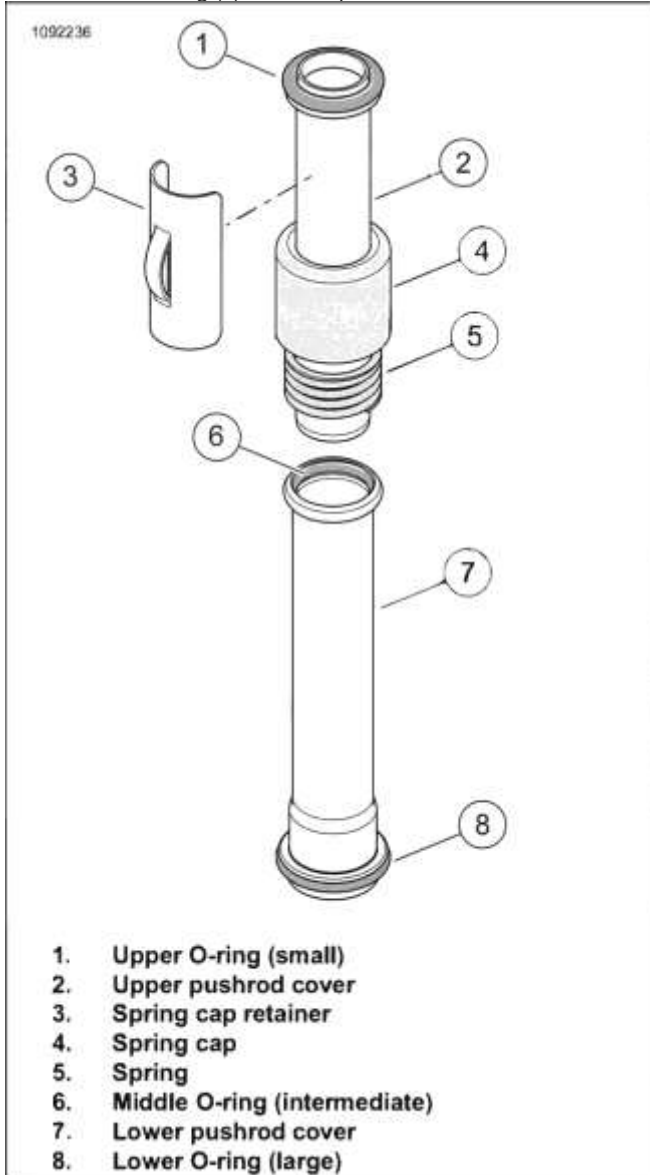

Figure 4-27. Assembled Pushrod Cover
1. See Figure 4-27. Apply clean engine oil to **new** O-rings (1,6 and 8).
2. Install upper O-ring (1) on upper pushrod cover (2).
3. Slide spring cap (4) and spring (5) onto body of upper pushrod cover. Move parts up until spring cap contacts upper O-ring seat.
4. Install middle O-ring (6) into groove on top of lower pushrod cover (7).
8. Install lower O-ring (8) on lower pushrod cover.